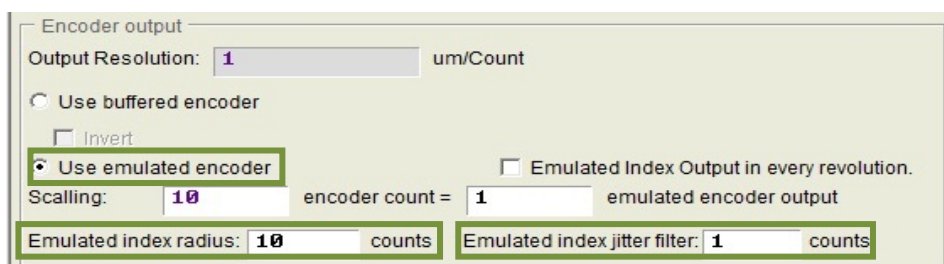

Figure5.2.2.3.4
- a Emulated index radius: Output range of emulated Z-phase signal, as figure 5.2.2.3.5.